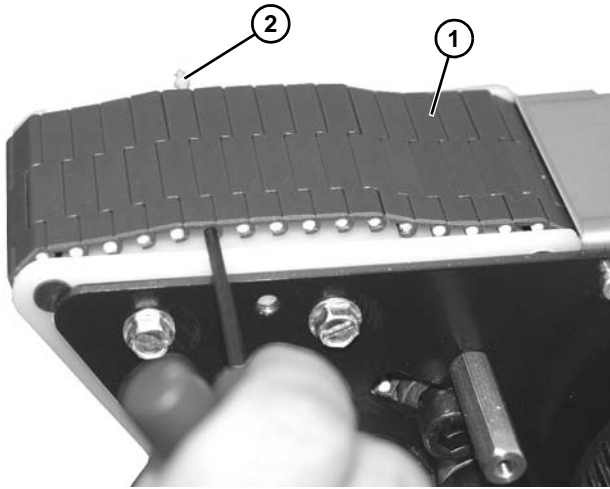

Figure 145
7. Lift slightly on belt (**Figure 145, item 1**) and push pin (**Figure 145, item 2**) out of belt.